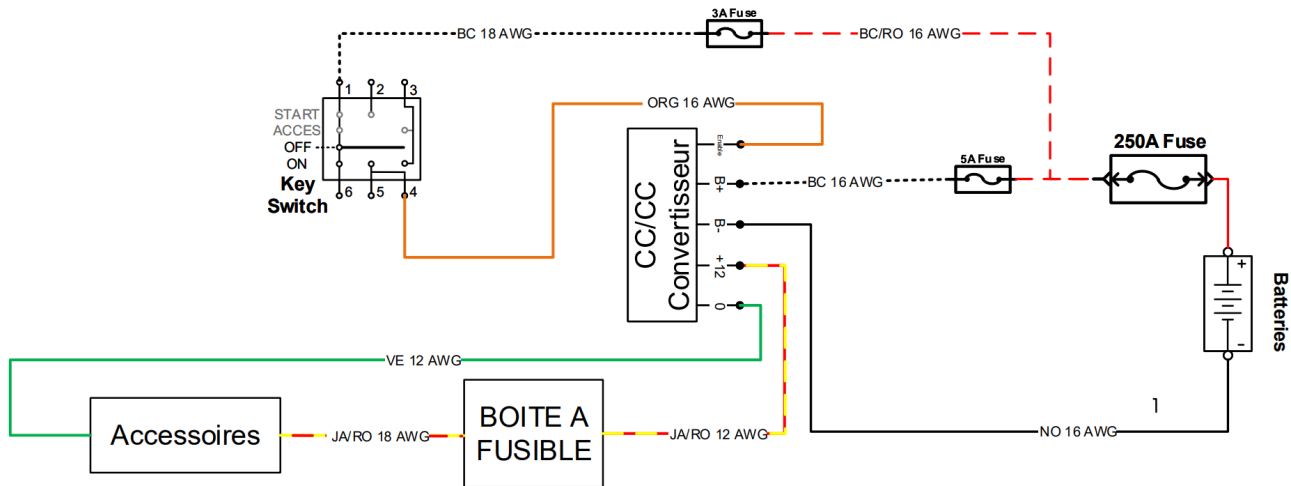

Figure 52. DC/DC Converter Input and Output Terminals Inspection.
1. 1. Check for the presence of voltage between the positive terminal (**B+**) (White Wire) and the negative terminal (**B-**) (Black Wire) of the DC/DC converter (As shown in Figure 52).
1. 2. Check for the presence of voltage between the orange wire and the negative terminal (**B-**) (Black Wire) of the DC/DC converter (As shown in Figure 52).
2. 1. Check for the presence of voltage between the yellow/red wire and the green wire of the DC/DC converter (As shown in Figure 52).